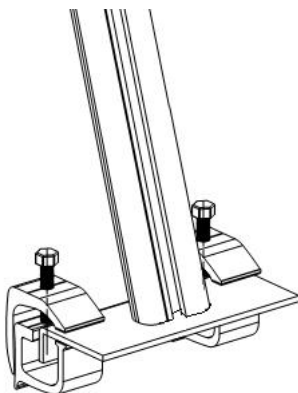

Figure2
Assemble the supporting column (11) on the truck bed with C-type fixing clamp (12), and tighten the screws .Show as figure 2.